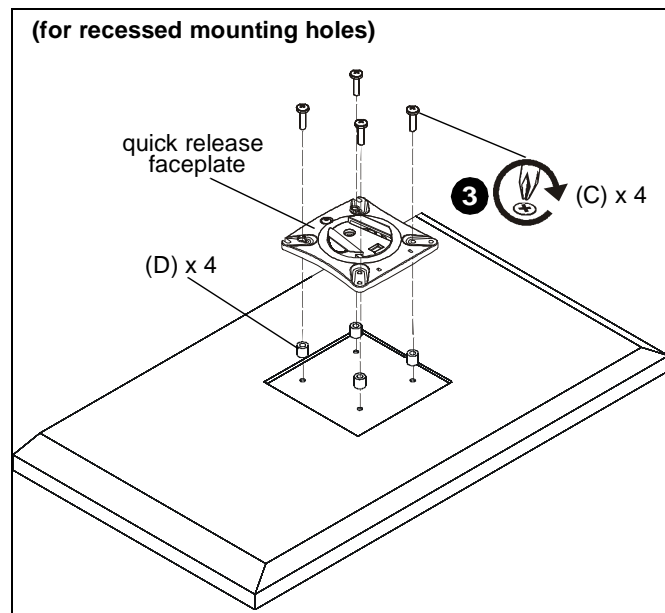

Figure 8
- Place four spacers (D) on top of mounting holes on back of display. (See Figure 8)
- Using Phillips screwdriver, carefully install four M4x25mm screws (C) through corresponding holes on faceplate, spacers (D) and into the mounting holes on the display. (See Figure 8)